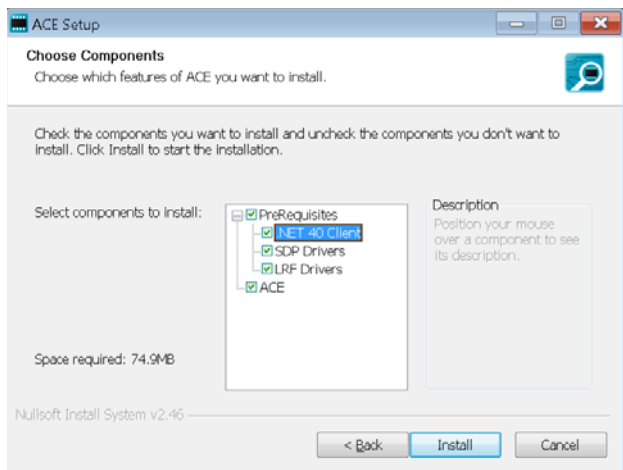

Figure 8. Drivers Required with ACE
3. Install the latest version of ACE software. During the installation, check the **SDP Drivers**, **LRF Drivers** and **.NET 40 Client** driver installations as well (see Figure 8).